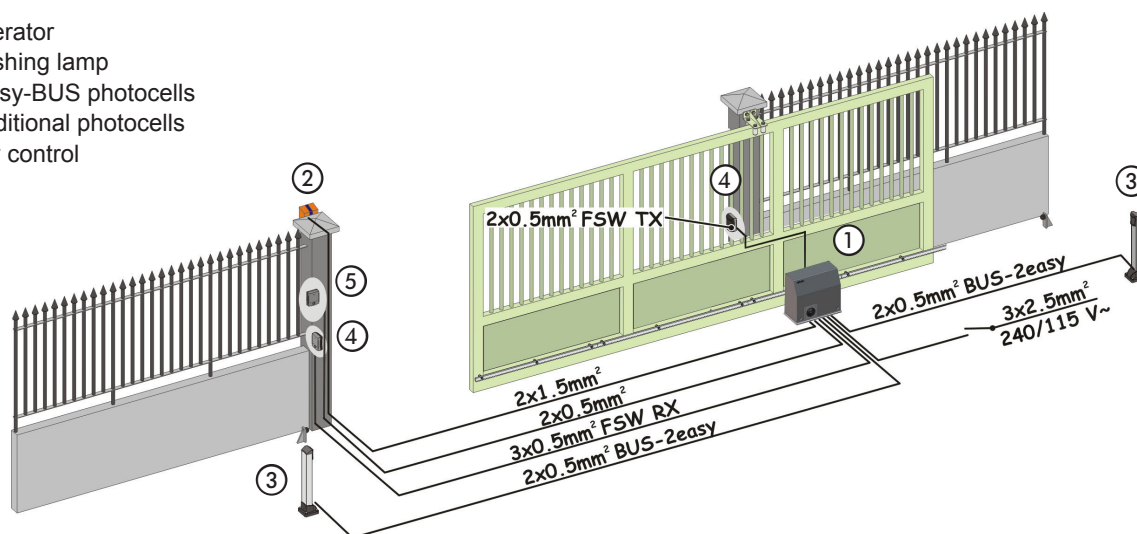

Fig. 3
5. Prepare the electrical cables for connecting the accessories and the electrical power, as shown in Fig. 3.
- Following the instructions shown in Fig. 3, place the cables in the runners and make the electrical connections with the chosen accessories.